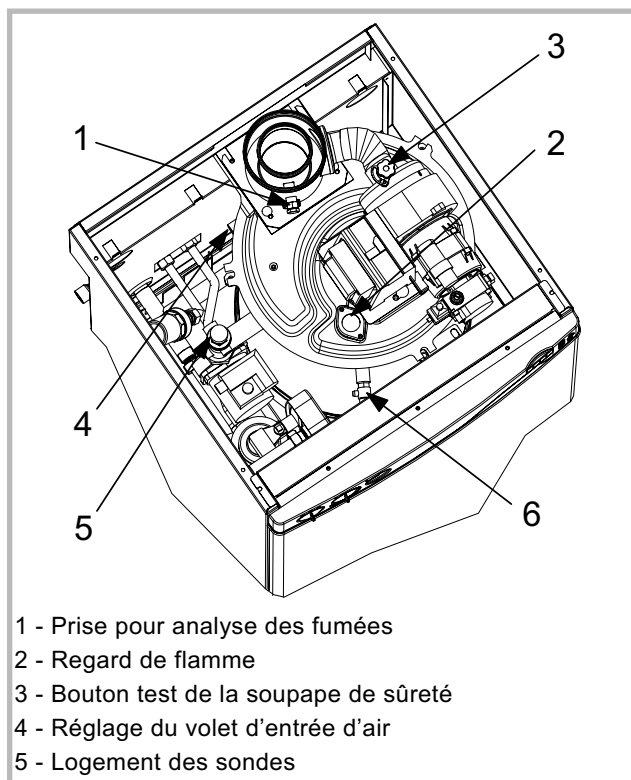

Figure 18
- Purger le corps de chauffe (rep. 6, fig 18).